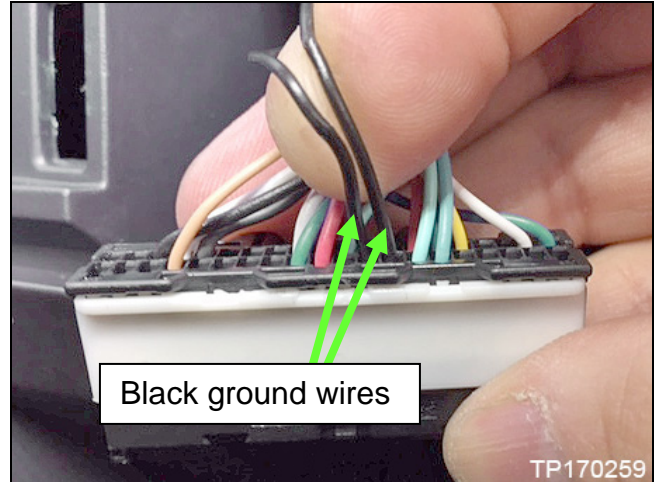

Figure 19
18. Using a terminal tool (J-48817-1, blade #07A), carefully remove the two existing black ground wires shown in Figure 19.